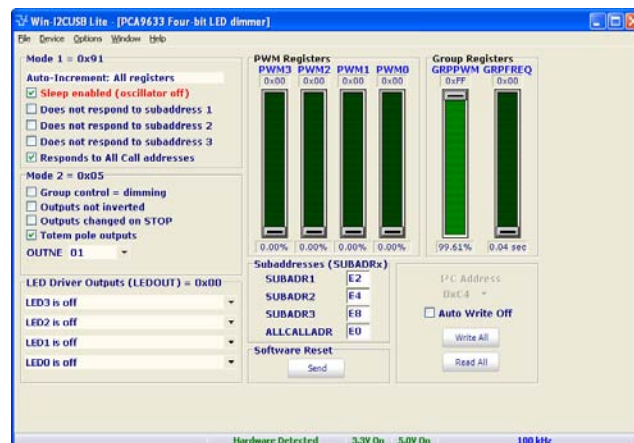

Fig 4. Device configuration screen
5. The device configuration screen will be displayed as in Figure 4.